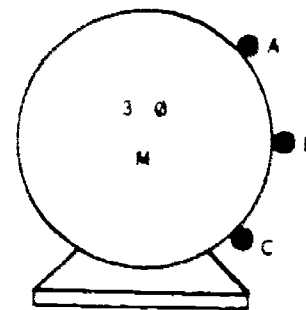

Figure 18
5. In order to reverse the motor shown in figure 18, change leads \_\_\_\_\_ and \_\_\_\_\_